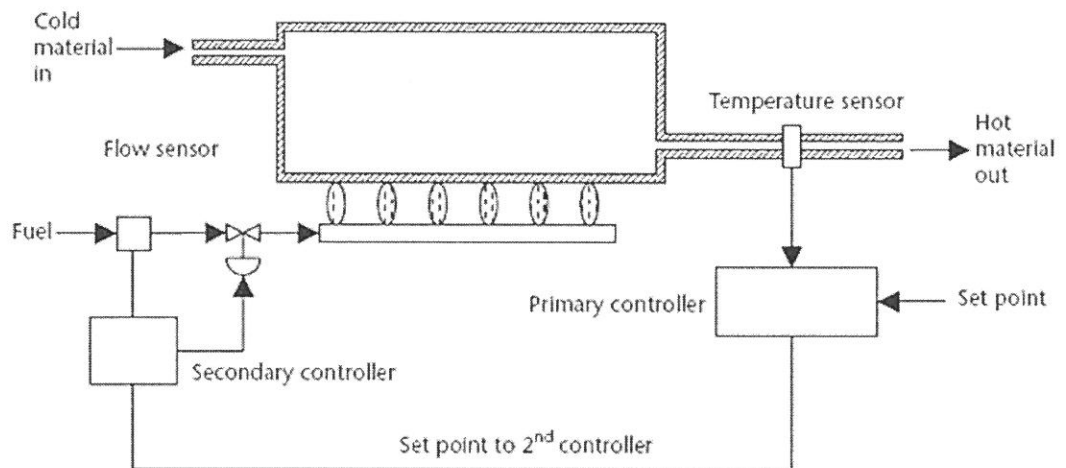

Figure 4(a)/ Rajah 4(a)
- (a) Explain the type of the controller in Figure 4 (a).